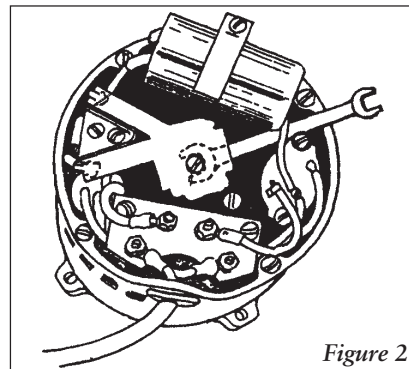

Figure 2
A.O. SMITH MOTORS - Remove motor end cover. Insert $\frac{7}{16}$ ” open end wrench, under switch mechanism onto flats on motor shaft. While holding the shaft against rotating, turn the impeller counterclockwise. The impeller should turn completely off the shaft in this manner. *See figure 2.*